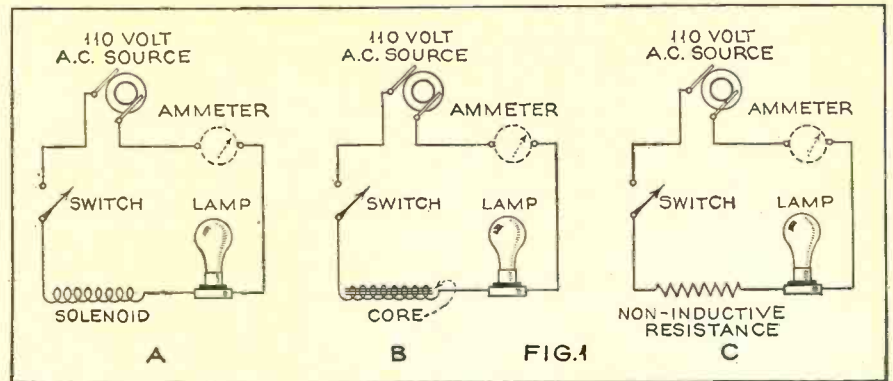

Figure 1. Experiment showing the effect of connecting an inductance in an a.c. circuit.
tial to clear, undistorted reproduction and these apply equally to the variable-width and variable-density recordings. These adjustments affect the position of the exciter lamp in respect to the optical system, the focus of the optical system, the centering of the aperture in reference to the sound-track, and the rotational adjustment. The exciter lamp is so mounted as to admit the necessary movements for correct alignment. This is checked by removing the photoelectric cell and placing a piece of white cardboard in its place—about as far away from the sound-gate or aperture plate (the plate with the slit in it against which the film is in contact during projection) as the elements of the photocell. The exact distance is not important. An image will be seen in accordance with Figure 1, which is self-explanatory. The indicated adjustments should be made on the lamp until
the spot of light appears as in Figure 1-D. The optical adjustment is effected by threading through a few feet of frequency film—from 5000 to 10,000 cycles (the
stant opposite in direction to the applied e.m.f. (Lenz's law), it tends to reduce the effect of the applied e.m.f. in producing a flow of current through the conductor. This opposition to the current flow caused by the self-induced e.m.f. in an alternating current (essentially the same effect exists in a pulsating direct-current circuit) is called the *inductive reactance*. If the circuit also has resistance, this will exert an additional opposition to the flow of current. The effects of inductance in an a.c. circuit may be shown by the following experiment: Connect a solenoid in series with a 110-volt, 110-watt incandescent lamp across a 110-volt source of alternating e.m.f. as shown at (A) in Figure 1. If an alternating-current ammeter with a range of 0 to 2 or 0 to 5 amperes is available this may also be connected in series with the circuit. Notice that the lamp does not light up to full brilliance, due to the fact that the ohmic resistance and the self-induced counter-e.m.f. of the solenoid are opposing the applied e.m.f. and thereby